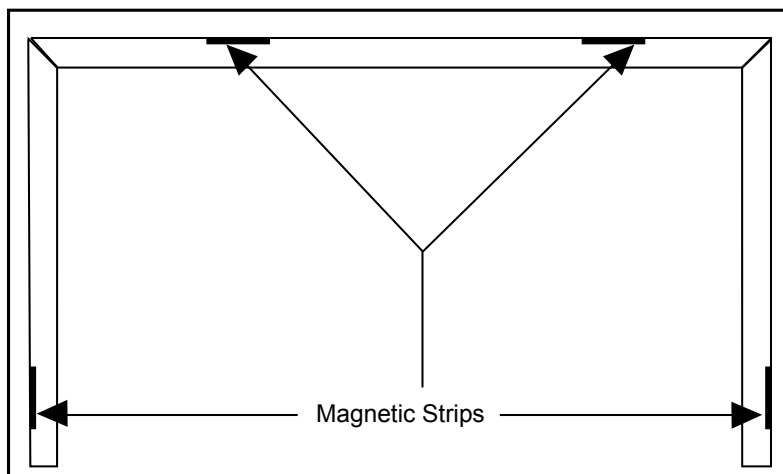

Figure 34: Magnet placement on trim.
1. Remove the backing off the magnets and stick them inside the trim pieces as shown in Figure 34.